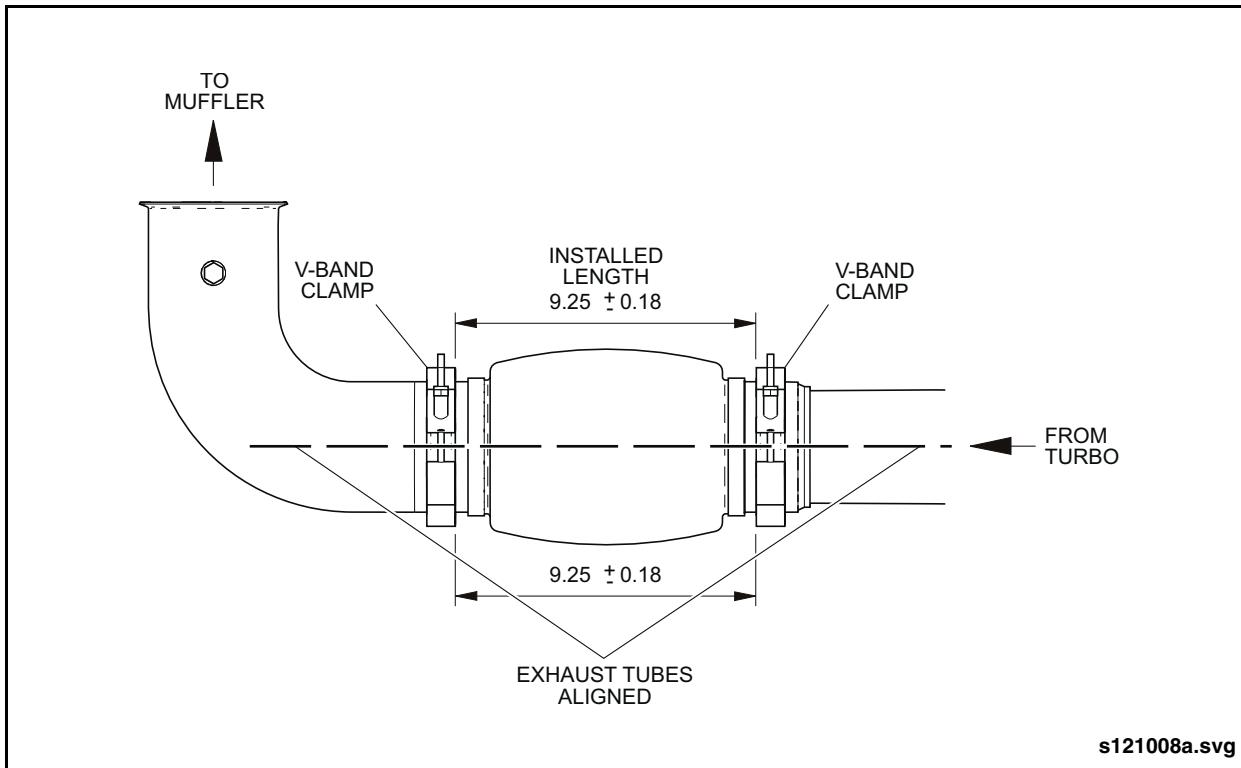

Fig. 4-21: Exhaust Flex Connector Installation
- d. The exhaust flex connector length shall be 9.25 ± 0.18 " when measured between the crimping rings on either end. Adjust muffler exhaust tube as required to achieve this dimension. See "Fig. 4-21: Exhaust Flex Connector Installation" on page 35.